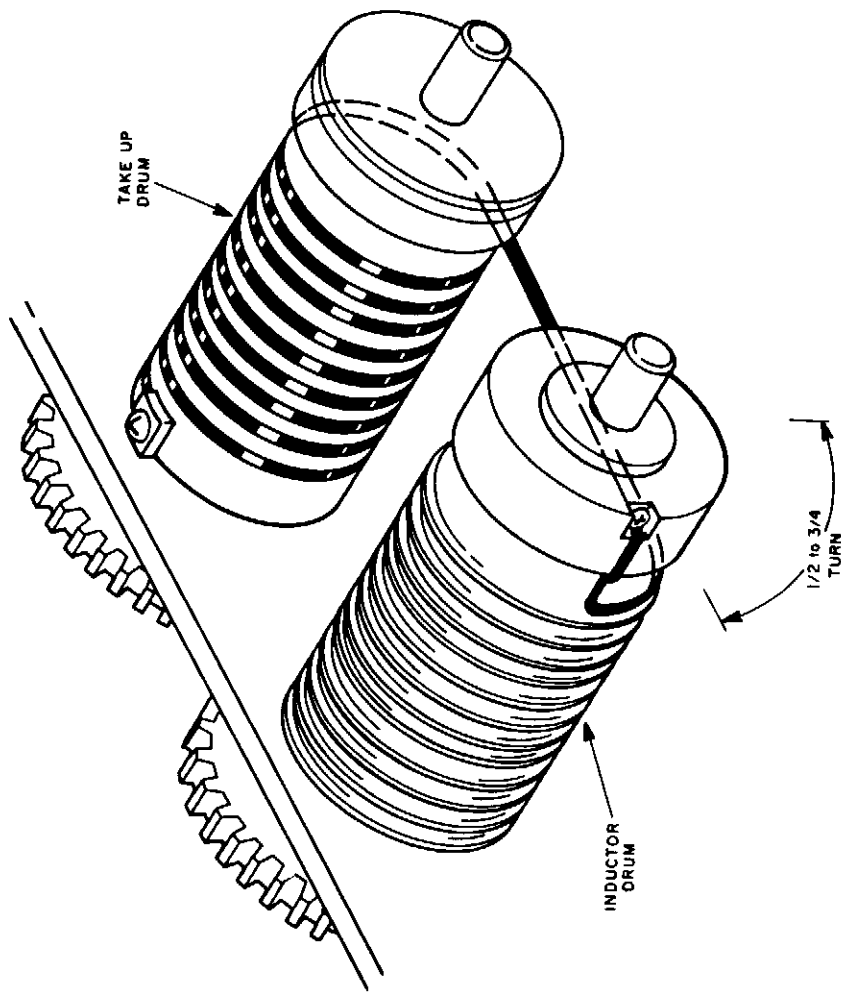

Figure 3-6. Antenna matching network module A4, inductor drum position upon installation
- (1) Position the inductor drum so 1/2 of a turn of the conductor is on the drum (fig. 3-6).
- (2) Place the module partially in the chassis, leaving terminal 1 of the module accessible.
- (3) Solder the coaxial cable to terminal 1 of the module and solder the cable shield and bare wires to the ground lug.
- (4) Rotate Front Panel WHIP TUNE Knob fully clockwise.
- (5) Place the module completely in chassis.
- (6) Solder wires, (2), to A4 terminal 2.
- (7) Replace the right-angled drive shaft on module, rotating the A4 shaft slightly as necessary to align set screws and tighten the set screws.